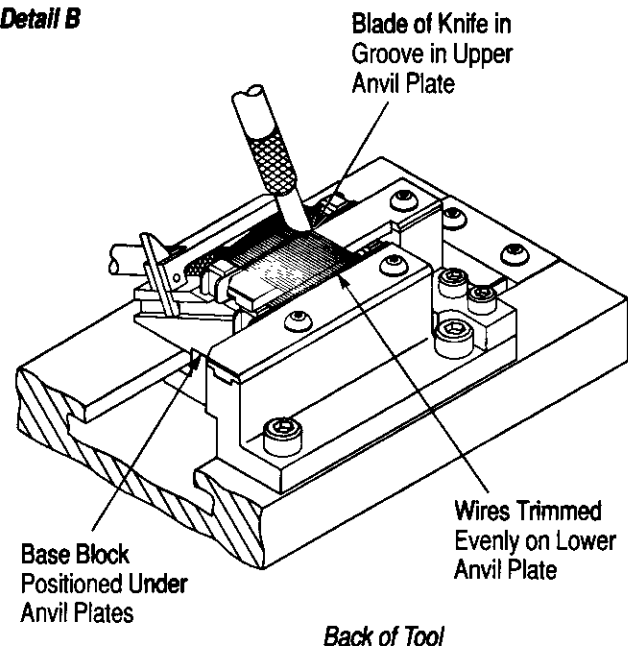

Figure 6
7. Lift the wire tails above the combs. See Figure 6, Detail A. Slide the base block to the end of the slide plate and under the anvil plates. Smooth the wire tails over the anvil plates so that they are straight.
8. Position the blade of the knife tight against the upper comb and carefully, with slight pressure, drag the blade across the wires, keeping the blade in the groove in the upper anvil plate. All wires should be trimmed evenly. Repeat for the lower comb. See Figure 6, Detail B.